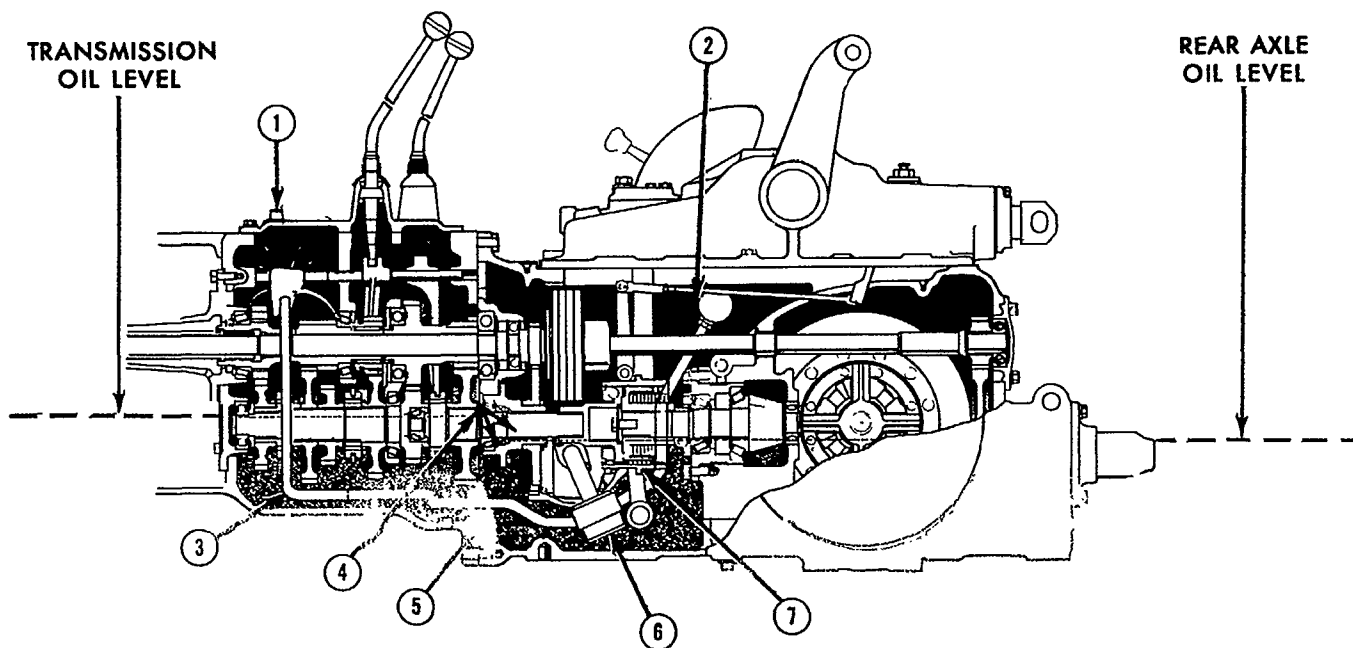

Figure 3
- An oil supply tube is incorporated from the external oil filter to provide for better lubrication of the transmission. See Figure 3.
As shown in Figure 3, the transmission oil level is higher than the center housing oil level when the tractor engine is not operating. Therefore, the system oil level must be checked at the center housing with the dipstick.